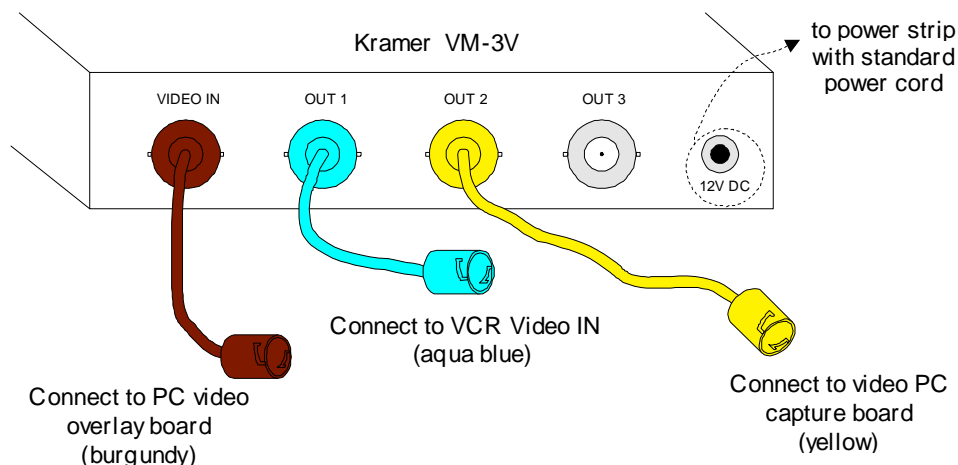

Figure 11
21. Route, then attach the BNC end of the patch cord to the VIDEO IN jack of the video distribution amplifier, (see **Figure 11** [burgundy]).
23. Now attach the other end of the BNC patch cord to the video distribution amplifier, OUT 2 jack (see **Figure 11** yellow)).
24. Attach a BNC patch cord to the video distribution amplifier, OUT 1 jack (see **Figure 11** [aqua blue]).